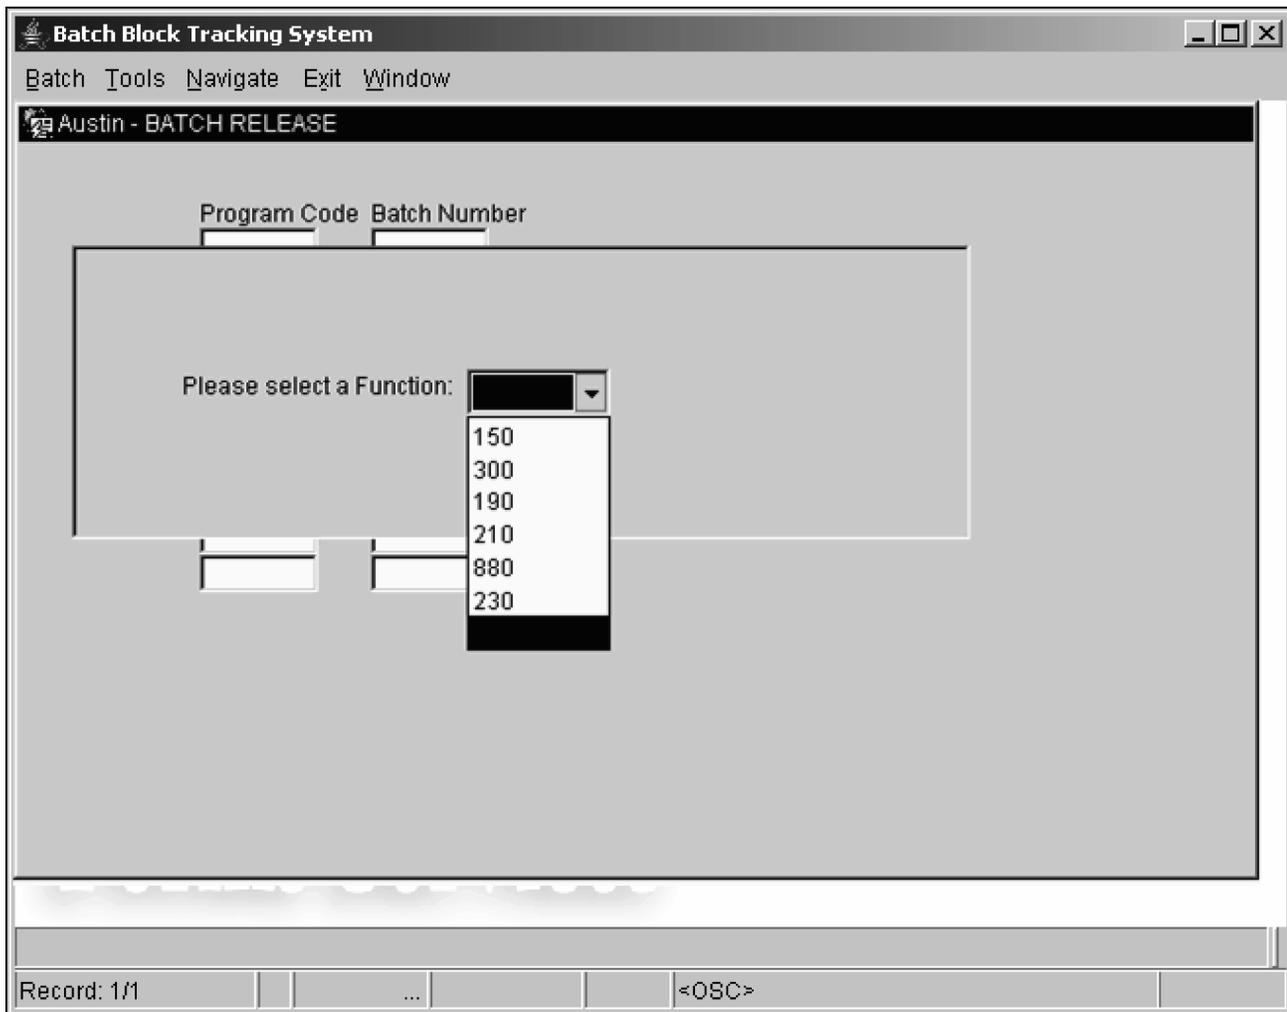

Figure 3.10.5-36 Function Code Drop Down List
- (1) This screen allows the user to release batches of work that have been previously established to the next function in its specified route. This screen is used by Batching, Code and Edit, Data Conversion, and Entity functions.
- (2) “Navigate” to the Batch Release Screen for final release batches.
- (3) Select the Function Code from the drop-down list. **See Figure 3.10.5-36**